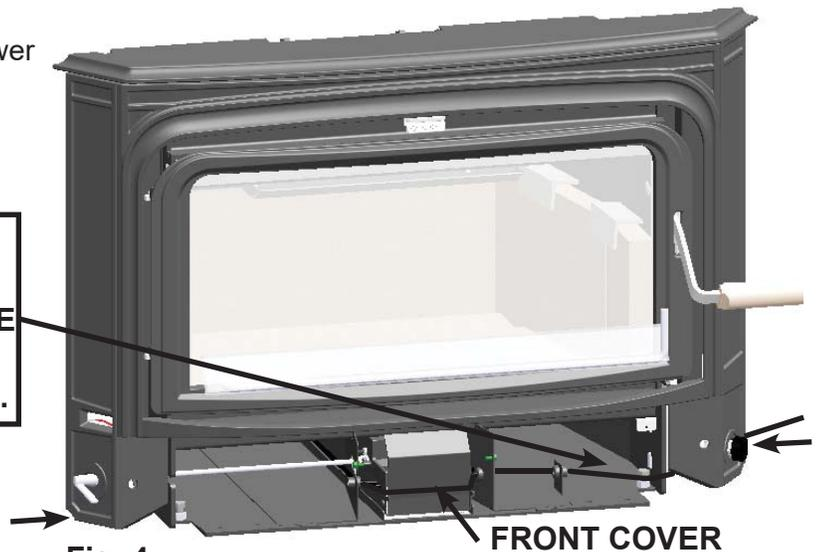

Fig. 4
5. Determine which side the nearest electrical outlet is then feed electrical cable through lower back corner of the cast facing on that side. Ensure wiring is tucked above the protruding flanges of the front cover. (Fig. 4)